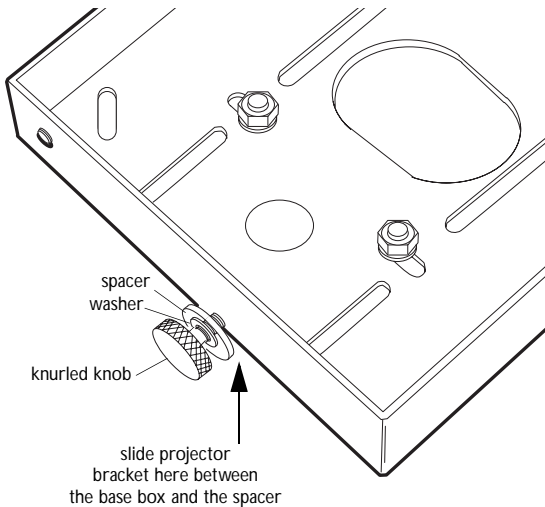

FIGURE 4
- 1 Loosely install the 6 mm knurled knobs, flat washers, and conical spacers to the 2 hinge pins on the base box (Figure 4).
- 3 Insert the projector and mounting bracket slots onto the base box hinge pins between the spacers and base box (Figure 4). Slide the projector bracket forward until the hinge pins rest fully in the vertical slots and support the projector.